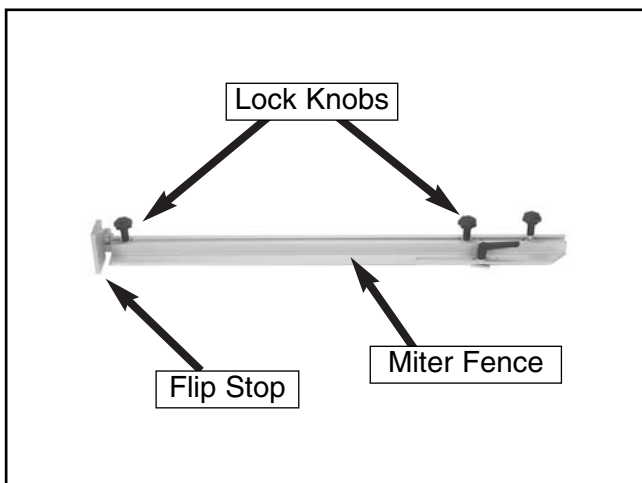

Figure 77. Flip stop slide lock knobs.
3. Loosen the lock knobs that secure the flip stop slide into position in the miter fence (**Figure 77**).